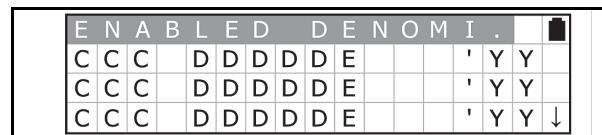

Figure 26 Denomination Table Screen
4. Press the OK Key  to display the Denomination Table Screen (See Figure 26). Press the CLR Key  to return to the previous Function Selection Screen.